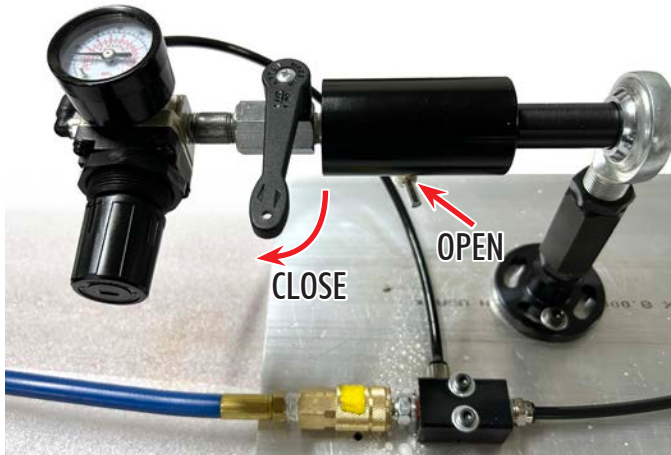

FIGURE 65—Close the air valve and open the drain valve.
- A. **VERY IMPORTANT:** Close the air valve (P/N 88055) and open the drain valve (P/N 88053) as described previously in these instructions (see Figure 65). This will turn the air pressure off to the bar feeder tube and release the air that is in the bar feeder tube.